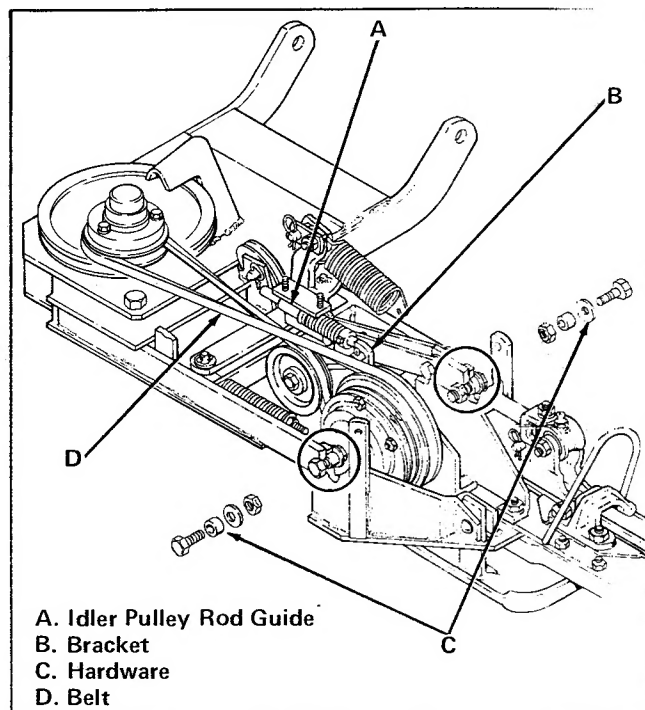

Figure 36. Hitch and Sickle Assembly
4. Remove idler pulley rod guide (item A, figure 36) from bracket. Remove bracket (item B) from sickle assembly. Remove hardware (item C) and align hitch with sickle bar assembly. Install belt (item D).